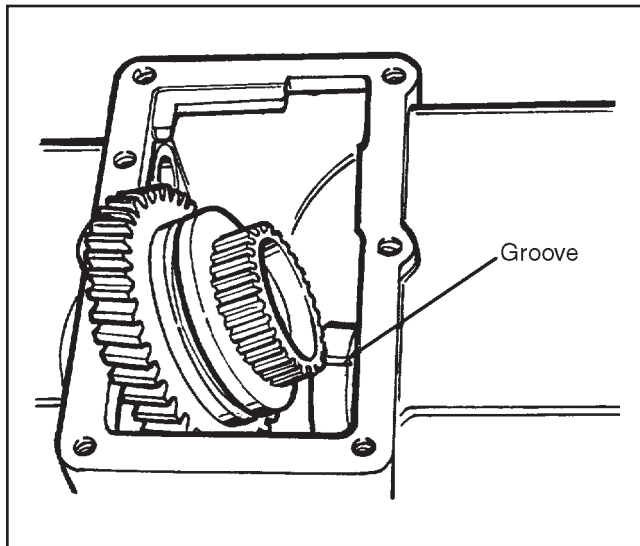

Figure 4I-12. Input Shaft and Gear Removal
17. Lift the input shaft and gear assembly upwards through the top of the housing. The machined groove in the splines of the main shaft must be at the bottom to clear the input shaft pilot bearing as shown in Figure 4I-12.